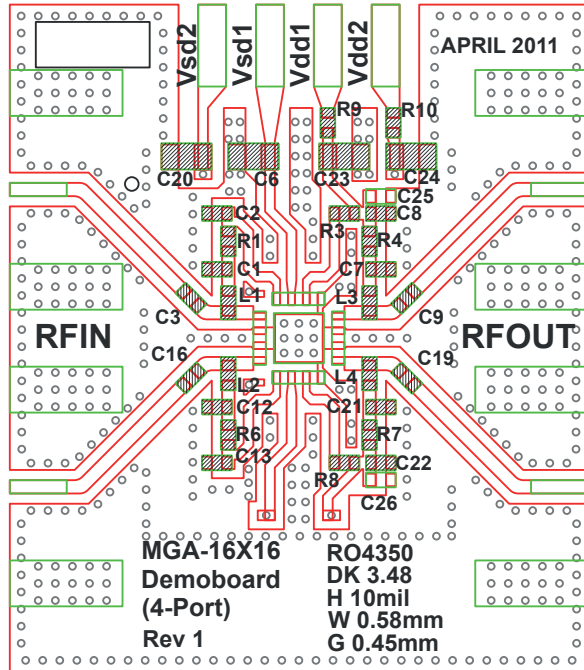
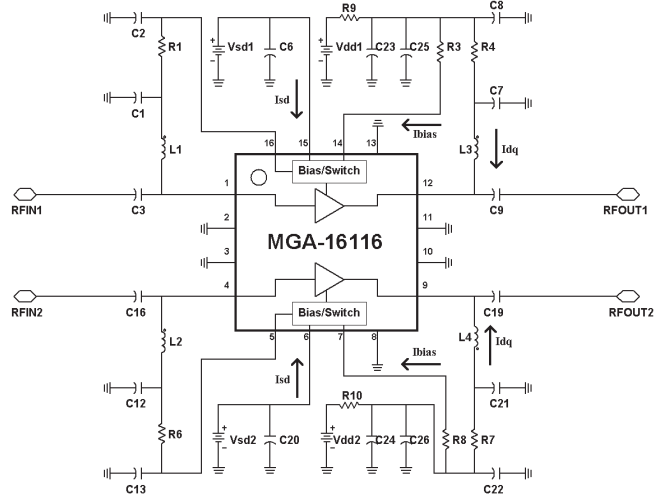

Figure 5. Demo Board Layout Diagram
Figure 6. Demo Board Schematic Diagram
4. Refer to Figure 6 for more details.
7. Bias to each LNA is adjustable using R3 and R8 (see Figure 6). Increasing R3 and R8 will reduce bias current (Idd) and vice-versa.
RF performance at  $T_A = 25^\circ\text{C}$ ,  $V_{dd} = 4.8\text{ V}$ ,  $I_{dd} = 60\text{ mA}$ . Measurements made on single-ended amplifier in LNA mode tuned to 900 MHz, using Figure 5 demoboard and Figure 6 circuit. Signal = CW unless stated otherwise. IIP3 test condition: FRF1-FRF2 = 1 MHz with input power of -20 dBm per tone.
2. Rbias is R3 and R8 from Figure 6.